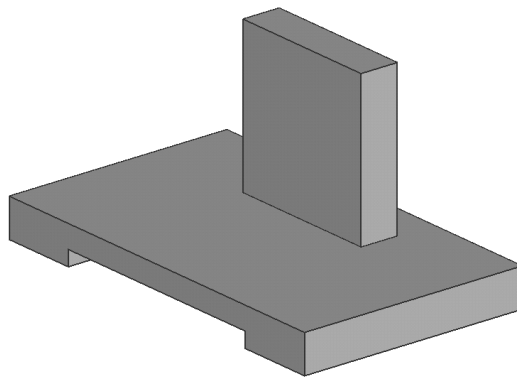

Figure 8-51 The model after creating the rectangular pad feature
- d. Create the rectangular pad using the **Pad** tool, refer to Figure 8-51.
8. Choose the **OK** button twice and then the **Cancel** button once. The rectangular pad feature is created, as shown in Figure 8-51.